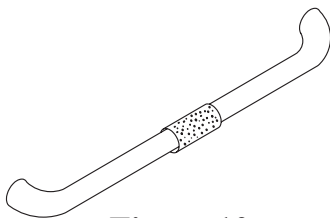

Figure 10
9. Install foam grip (4) on lid handle (3). See Figure 10.